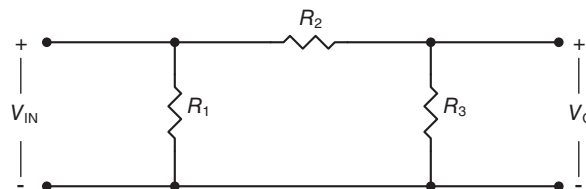

Figure 1.7. Pi network. This network is frequently used as a constant impedance RF attenuator.
The Pi network of Figure 1.7 is commonly found in radio frequency (RF) circuits and does the following: